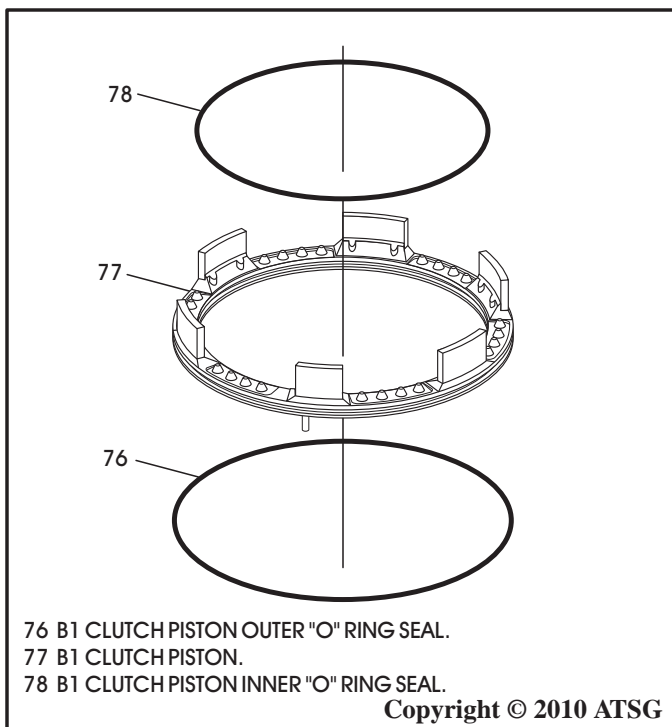

Figure 155
5. Install the inner and outer "O" ring seals onto the B1 clutch piston, as shown in Figure 155, and lube with small amount of Trans-Jel®.